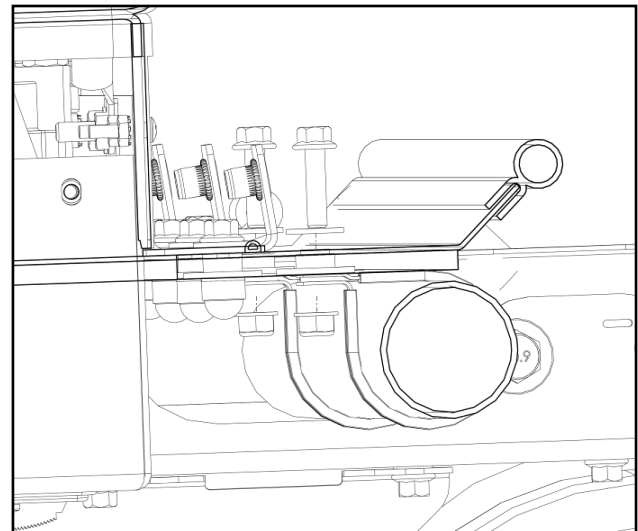

Fig. 12.3 Install P-Clamps onto ROPS
**12.3** Install P-clamps onto the vehicle's ROPS per fig. 12.3. Next, loosely install all fasteners to the roof so that the smaller diameter plastic washers are under the heads of the screws and the larger diameter steel washers are between the P-Clamps and headliner.